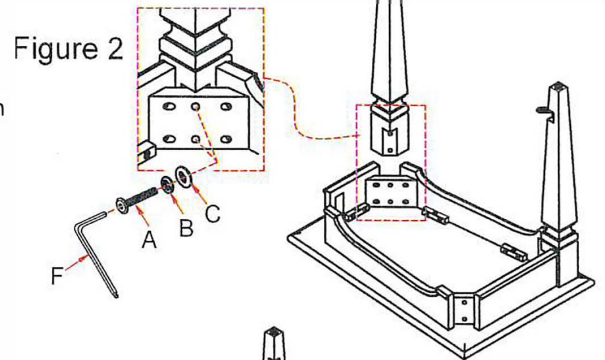

Figure 2
2. Attach two legs on the table by using Flat washer (C), Lock Washer (B), Bolt (A) with Allen Key (F). (See Figure 2).